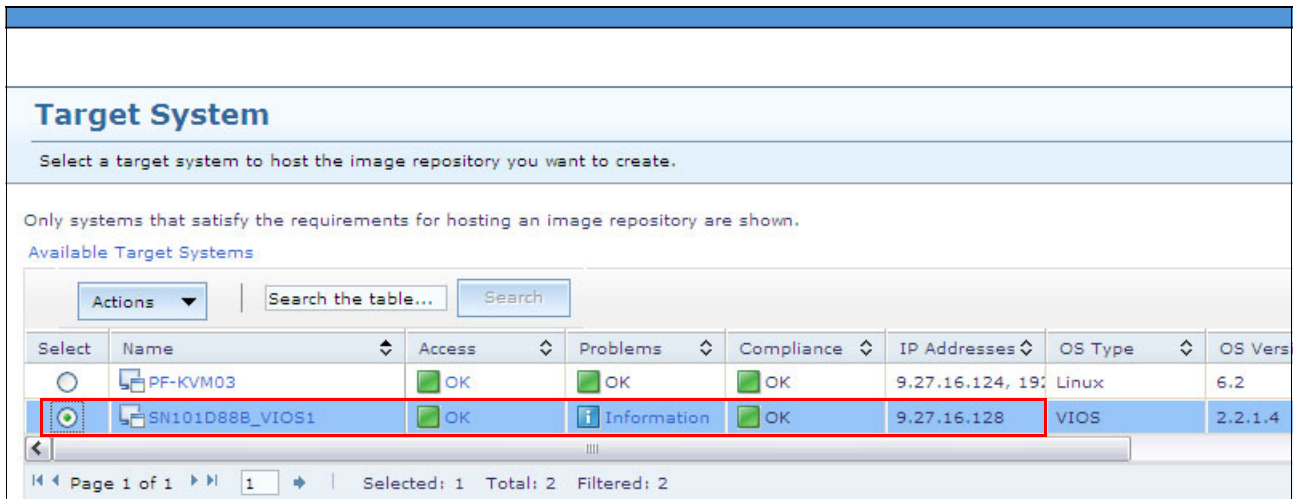

Figure 10-96 Selecting the target system
3. Select the VIOS as shown in Figure 10-96. If the AIX deployment uses Storage Copy Services (SCS), the newly created logical unit number (LUN) is allocated to the VIOS. The VIOS assigns this LUN to the new virtual server by using vscsi mapping.